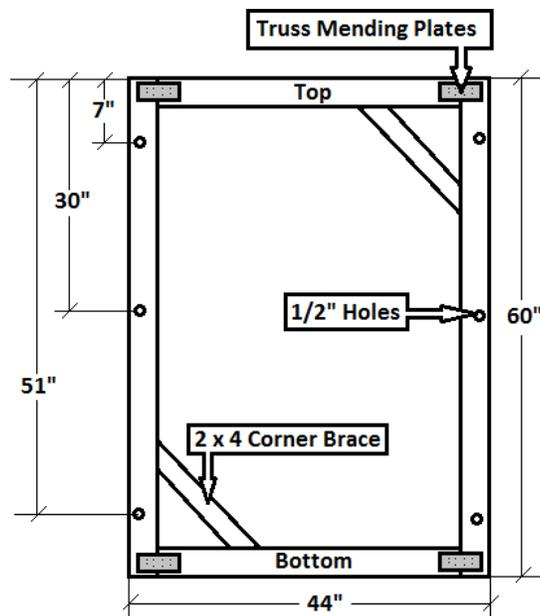

Figure 2-5
3. Measuring down from the top, drill 3 - 1/2" holes on each side at 7", 30", and 51" (Figure 2-5). These holes will be used for access to nuts when bolting sides together.